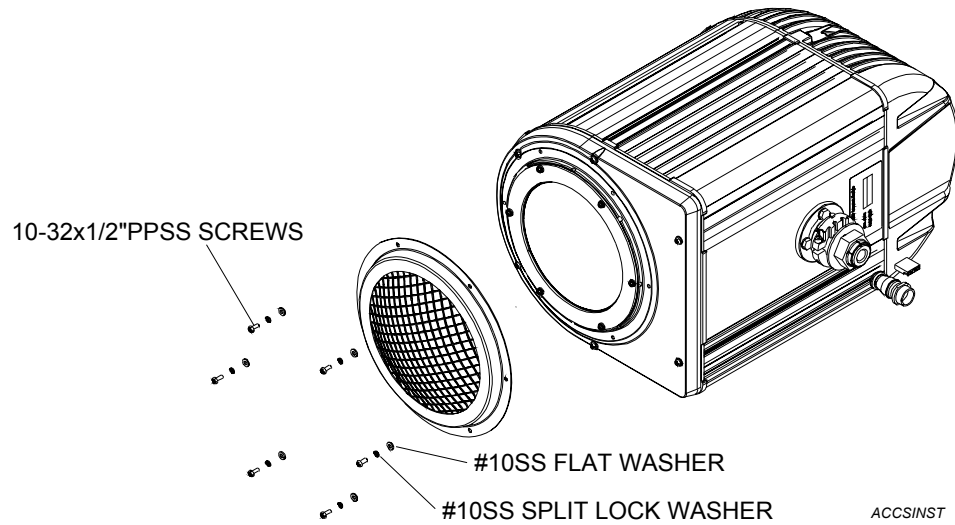

Figure 7.15 - Rock Guard Installation
1. At front casting accessory screw pattern, remove six 10-32x1/2"PPSS screws, #10SS split lock washers, and #10SS flat washers (Figure 7.15).